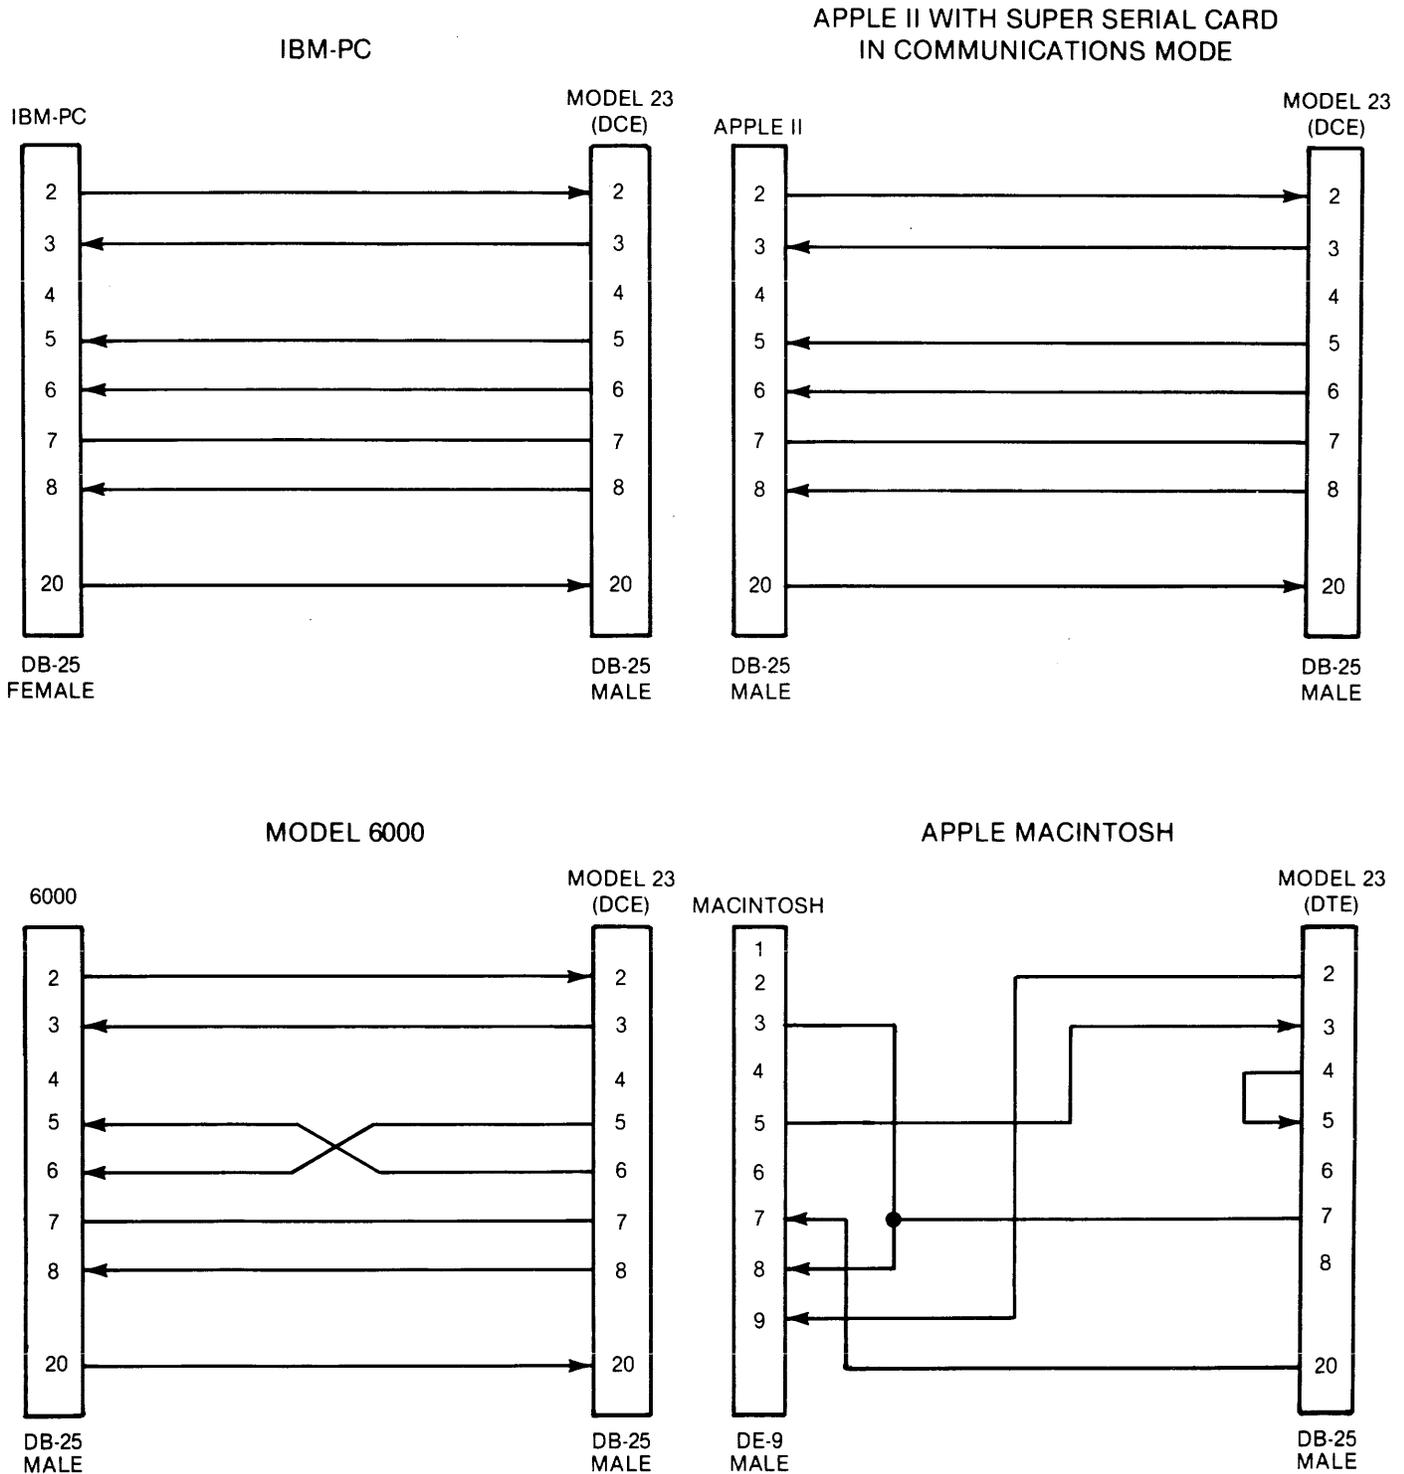

Figure 2-10. Typical Examples of Serial Cables
- In most cases a straight through cable can be used to connect the Model 23 with the other device. The Model 23 only requires the connection of pins 2, 3, 5, 7, and 20 but the other device may require more. Examples of typical cable assemblies are shown in figure 2-10. However, there are many interpretations of the RS-232-C standard and either of the following procedures (A or B) should be used to ensure that the control and handshake signals are properly connected.
- (1) Pin 7 is always connected straight through.
- (2) Pins 2 and 3 are connected straight through if DCE/DTE configuration is correct.
- (3) Pin 20 of the Model 23 will need to be connected to an input of the other device that will enable and disable the character transmission from that device. If the other device does not support this, XON/XOFF handshaking will need to be used and this can be left disconnected.